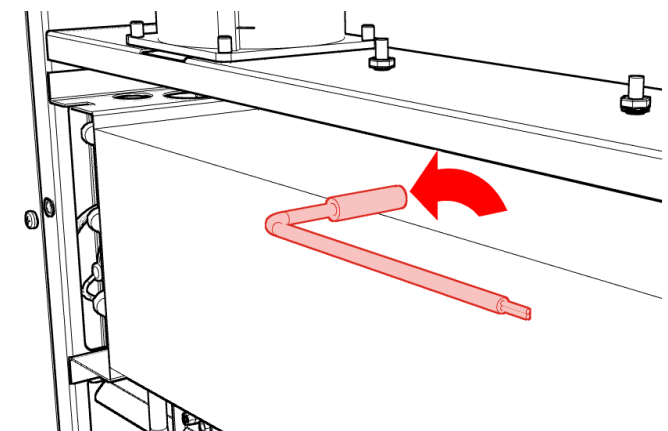

Fig. 20
4. Pull sensor out of evaporator to remove (Fig. 20).